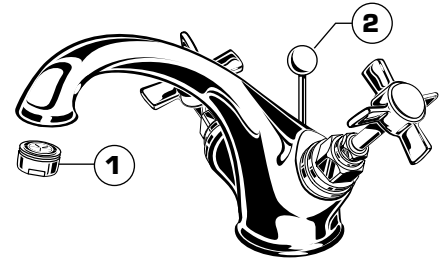

**FIGURE-4B:**
- Push Tail piece (11) down into Trap (C) (threaded end up).
- Thread Locknut (5), Washer (4) and Gasket (3) (Bevel side up) onto Drain Body (10).
- Apply a bead of Putty (D) to underside of Flange (2) or (2A).
- Feed Drain Body (10) up through Sink (A) and thread the Flange (2) or (2A) fully onto Drain Body (10).
- Tighten Locknut (5) firmly, keeping the pivot rod hole pointed towards the back of the sink.
- Assemble Pivot Rod (9) or (9A) as shown in Figure-4B. Notice the position of the Concave Washer (G).
- Insert Pivot Rod (9) or (9A) into Drain Body (10) and tighten Pivot Nut (F).
- Push TAILPIECE INSERT (12) into TAILPIECE (11) and push TAILPIECE up and thread tightly into DRAIN BODY (10).
- Position Extension Rod (7) onto Pop-Up Rod (E) and tighten Thumbscrew (6).
- Remove one end of Clip (8) from Pivot Rod (9) or (9A) by squeezing ends together while sliding.
- Insert Pivot Rod (9) or (9A) into second or third hole in Extension Rod (7) and reassemble Clip (8).
- Drop Stopper (1) into Drain Body (10).
- Adjust stopper height by repositioning Extension Rod (7) and tightening Thumbscrew (6).